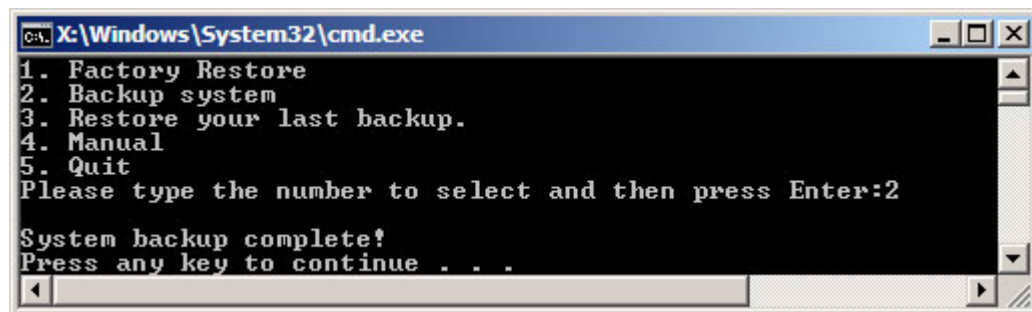

Figure C-38: System Backup Complete Window
Step 3: The screen is shown in **Figure C-38** appears when system backup is complete. Press any key to reboot the system.